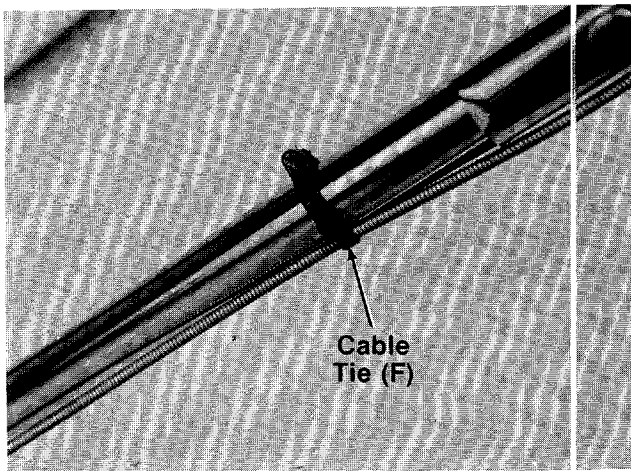

FIGURE 9.
13. Secure cables to upper and lower handles with cable ties (D). See figure 9.